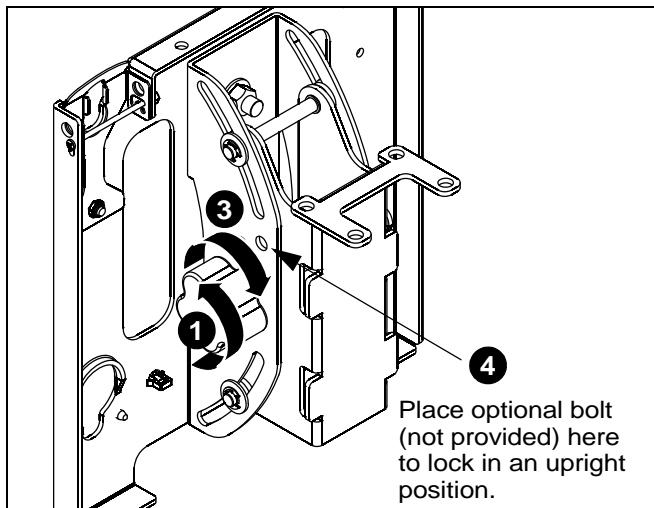

Figure 9
1. Turn knob counterclockwise on back of head assembly to loosen the tilt. (See Figure 9)
3. Turn knob clockwise to tighten display on head assembly. (See Figure 9)
4. If leaving the display in a straight upright position, it is recommended that a bolt (not provided) be placed through the head assembly to lock the display into the upright position. (See Figure 9)